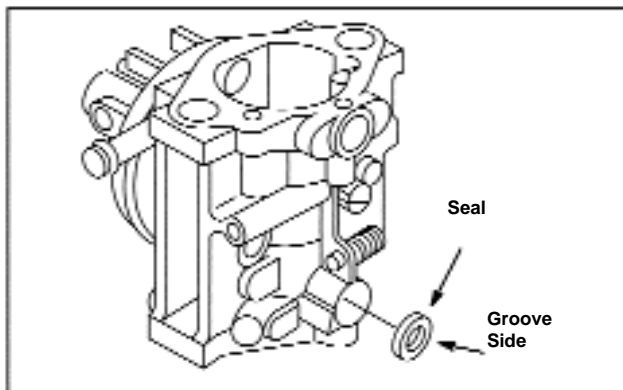

Figure 21 - Removing Seal
2. Lift out throttle shaft and plastic seal. Remove throttle shaft seal, Figure 21.